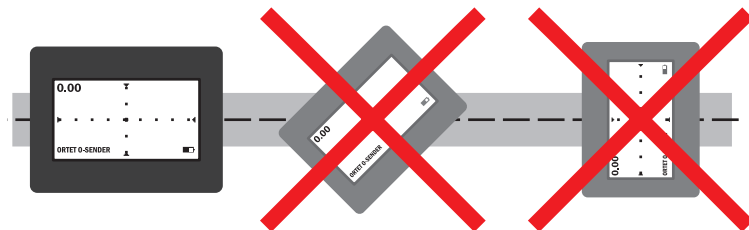

Fig. 43: **SONDE (Peak +)** locating mode - receiver aligned correctly above the line (left)
- The receiver must be correctly aligned to determine the depth (fig. 43). Turn the receiver so that the display is parallel to the line with the sonde. Check the alignment even if you are not instructed to **ALIGN** in the instruction field.